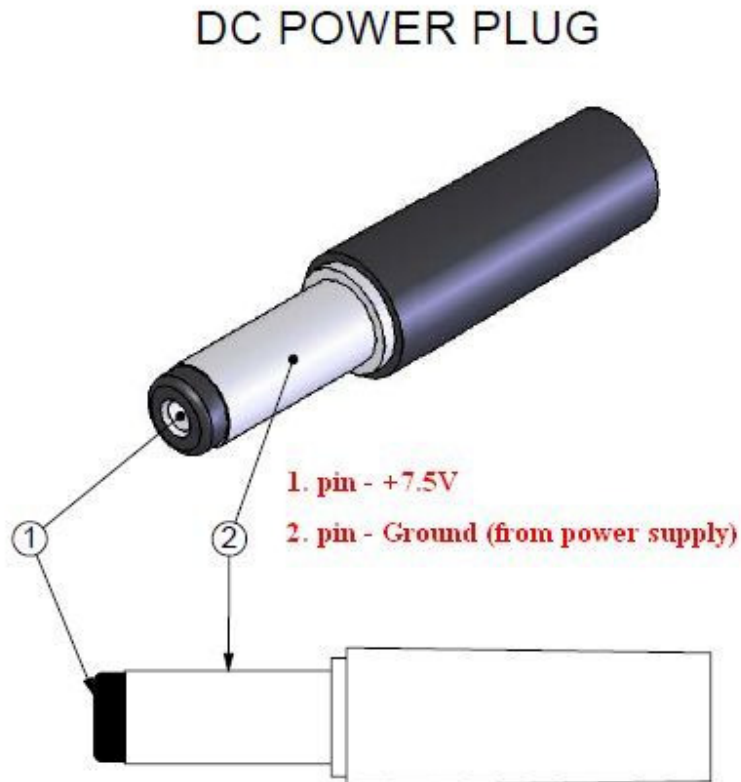

Figure 3 DC power plug pin-out
- 1.3** J7 connector (External Power Supply +7.5V) – it can be used to connect SDR to external power supply. External power supply required DC voltage from +7V up to +10V. The 2.5mmX5.5mm DC power Plug is needed for external power supply cable assembly. The external power supply can be used when AFE822x SDR-Net receiver is used in Network mode. The pin-out for external power supply cable is shown on **Figure.3**